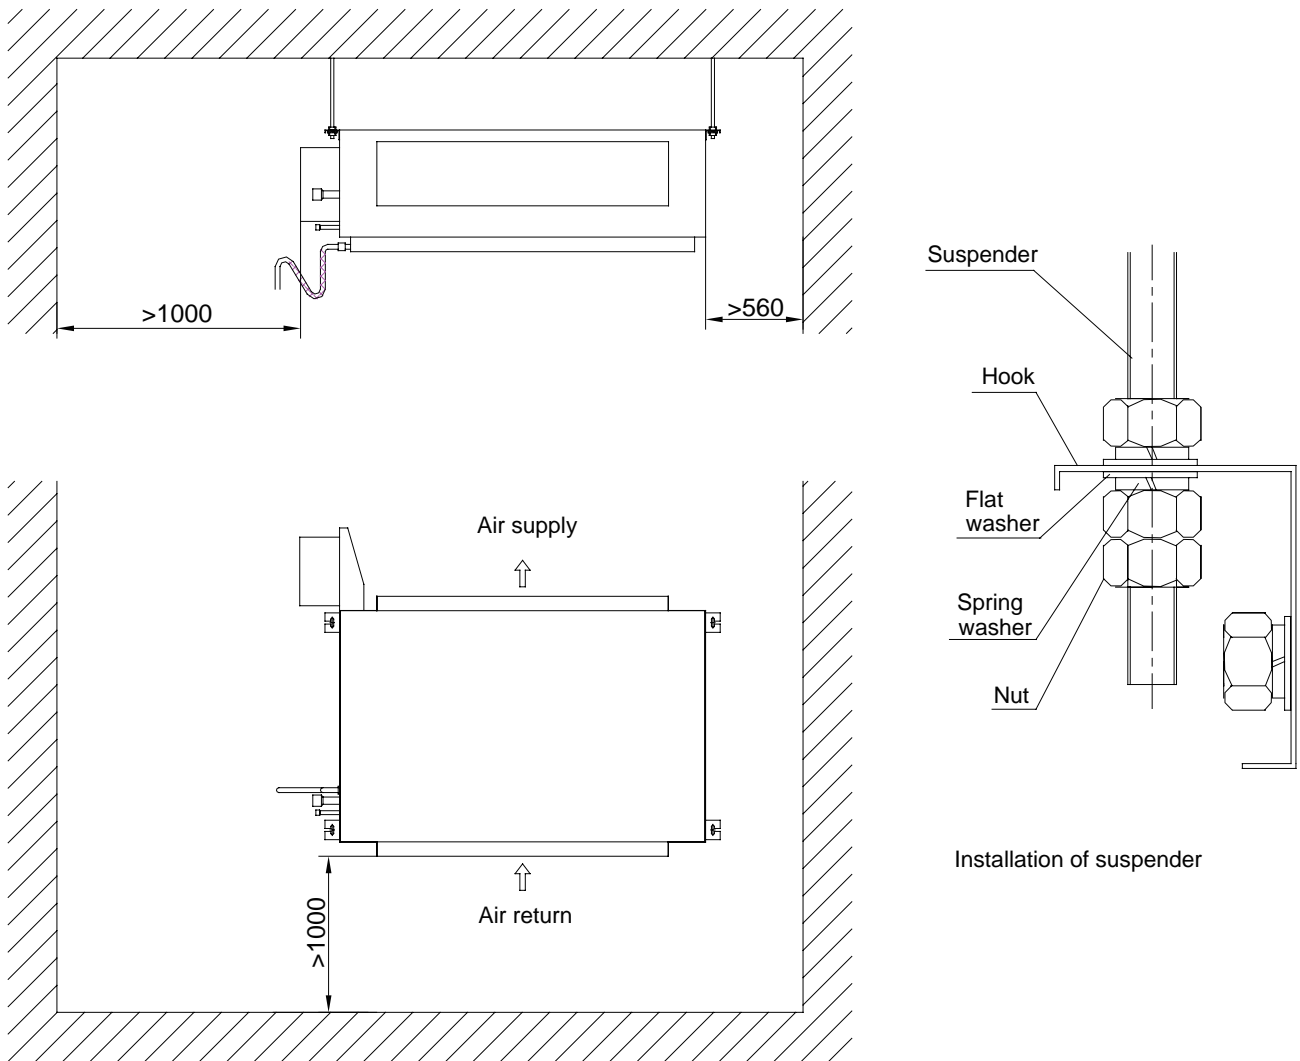

Fig.20 Schematic for the indoor unit
2) Main body of the indoor unit The indoor unit should be installed horizontally and the demand of installation space is shown in Fig. 20. To install an indoor unit needs 4 hanging rods, and each hanging rod should at least withstand four times of the unit's weight.